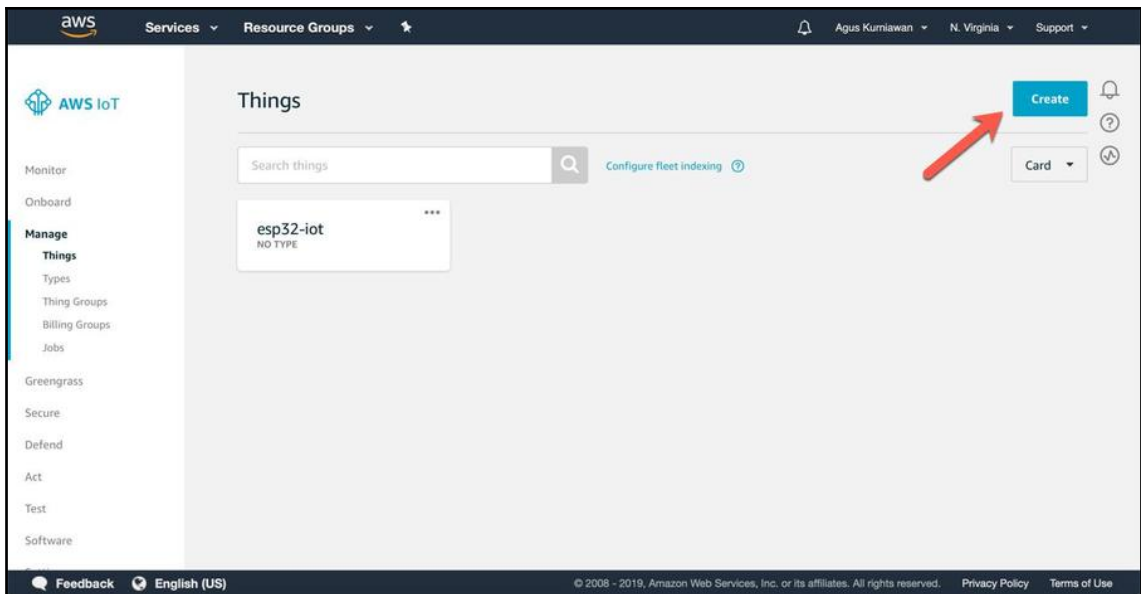

Figure 10.2: Creating a new IoT device
5. Then, you will get a web form as shown in *Figure 10.2*.